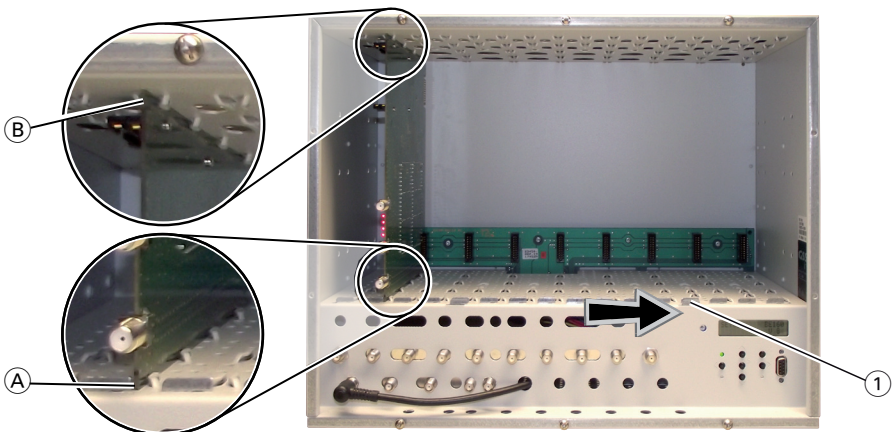

Fig. 3
- Insert the COFDM module in grooves ① and ② of an open slot (with contact strip on the board at the rear wall of the housing) and gently slide it into the head-end station until it makes contact with the board on the rear wall (fig. 3).
- After installing the COFDM module close the locking device ① in the direction of the arrow (fig. 3).